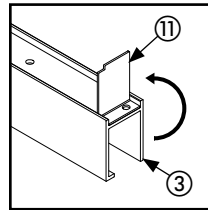

Figure 8. Marking End Cap on Rail
- Place an end cap ⑪ inside the rail ③, ensuring it fits flush with end of the rail.
- Rotate the end cap to the top of the rail as shown in Figure 8.